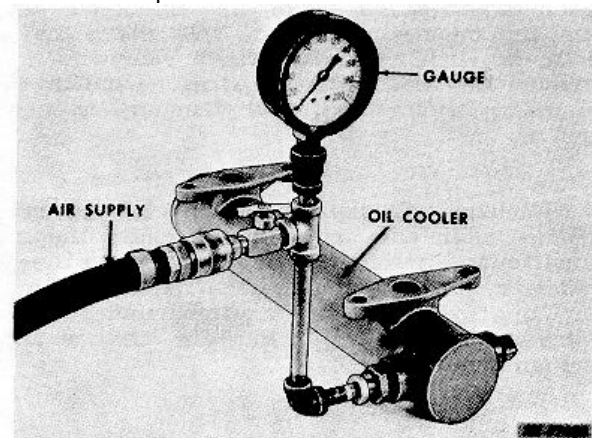

Fig. 107. Pressure Testing Oil Cooler
3. Pressure test cooler for leakage (Fig. 107) as follows: